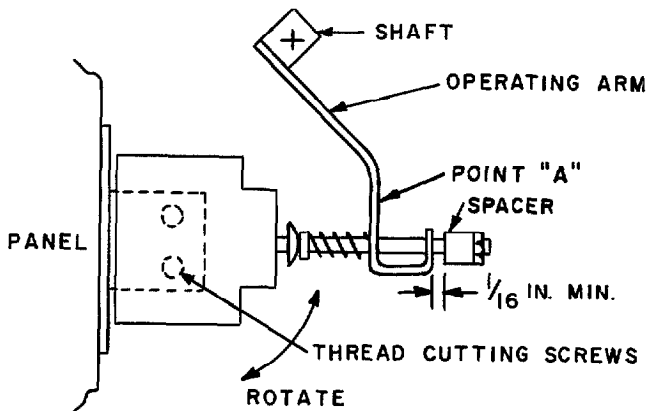

Figure 6. Interlock and operating arm assembly.
vertical alignment, loosen the thread-cutting screw by one thread that mounts the interlock on its bracket and rotate the interlock up or down as desired. See Figure 6.
2. Any misalignment or angular position of the operating arm should be corrected by twisting the operating arm at Point "A" in the direction needed for correction. See Figures 6 and 7.
- With the contactor de-energized, the interlock plungers should be at the bottom of their travel and there should be a minimum gap of $1/16$ inch between the spacer and the operating arm. See Figure 6.